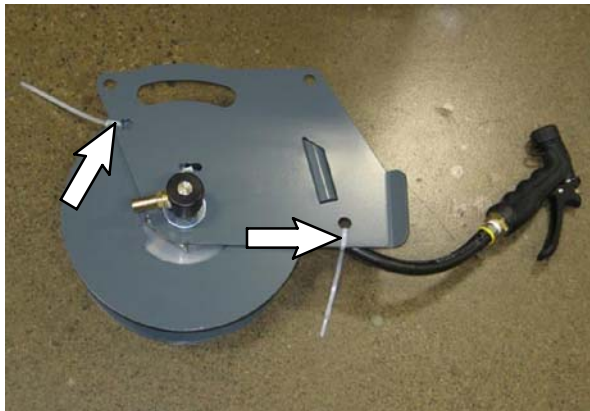

FIG. 3
6. Use two cable ties (2) to secure the reel assembly and spray hose (1) to the mounting plate. Refer to Fig. 3.